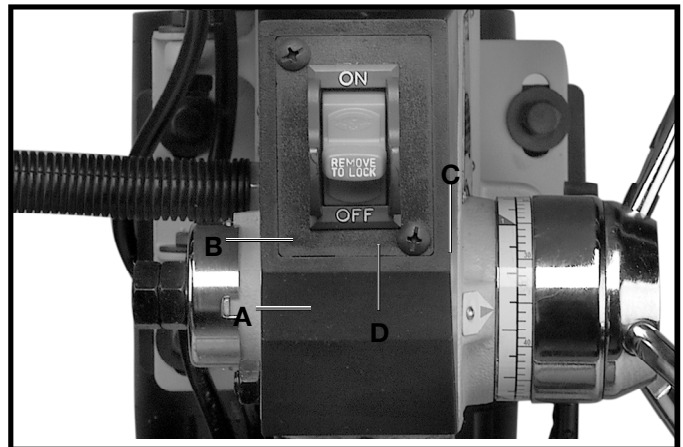

Fig. 31
2. Insert smooth end of drill bit (A) Fig. 31, into chuck (B), as far as it will go, and then back the bit out 1/16", or up to the flutes for small bits.
3. Make certain that the drill bit (A) Fig. 31, is centered in the chuck (B) before tightening the chuck with the key (C).
4. Turn the chuck key (C) Fig. 31, clockwise to tighten and counterclockwise to loosen the chuck jaws.
6. **MAKE SURE** chuck key (C) Fig. 31, is removed from chuck before starting drill press. Your chuck key (C) is equipped with a self-ejecting pin (D) which helps minimize the hazard of the key being left in the chuck.